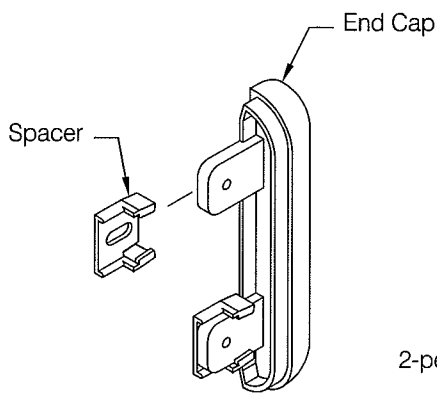
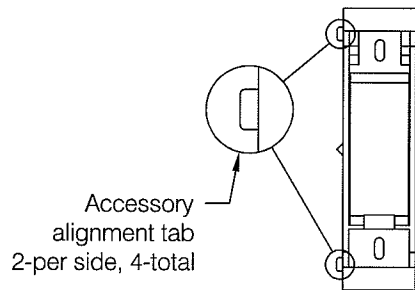
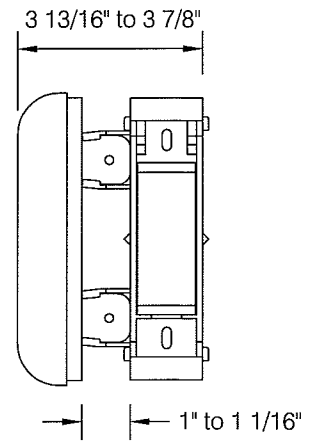

fig 4
fig 5
fig 6
**Step 3:** A Quik Clip must be installed adjacent to each molded accessory. Begin by installing a spacer on each of the accessory mounting tabs, see **fig 4**. The Quik Clip has four accessory alignment tabs used to facilitate positioning of the molded components with respect to the clip, see **fig 5**. Temporarily locate the accessory and Quik Clip combination by holding them temporarily in their desired position. Remove the accessory and fasten the Quik Clip in place. It is also possible to locate the clip by measuring 3 13/16" to 3 7/8" from the outer edge of the desired accessory location or 1" to 1 1/16" from the inner edge, see **fig 6**.